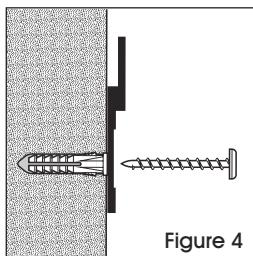

Figure 4
4. Insert wall anchors into holes, flush with the wall. Insert 1 $\frac{1}{4}$ " screws through hanging brackets, into the wall anchors. Tighten firmly. (See Figure 4)